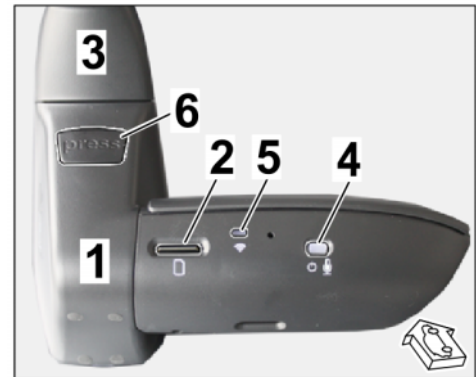

Figure 24
5.1.1 Remove micro SD memory card (32 GB, ⇒ *Figure 24 -2-*) from front camera card slot.
5.1.2 With ignition switched on, push front camera (dashcam ⇒ *Figure 24 -1-*) onto the mounting plate on the windshield (⇒ *Figure 24 -3-*).
5.1.3 Press power button (⇒ *Figure 24 -4-*) for 10 seconds until you hear the second double-beep.
5.1.4 The front camera (dashcam) starts in Dealer mode: WiFi LED (⇒ *Figure 24 -5-*) lights up "yellow".